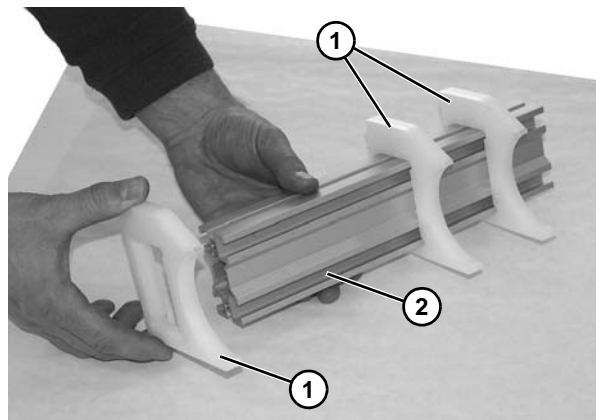

Figure 87
9. Remove gap filler plates (**Figure 87, item 1**) from crossmember (**Figure 87, item 2**).